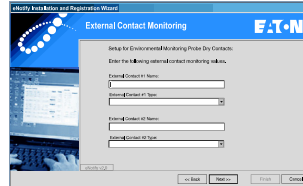

Figure 21. Set External Contacts
- On the External Contact Monitoring screen (Figure 21), describe the external contacts for the Environmental Monitoring Probe (EMP) if you are using them. Type a **Name** for each dry contact and select its **Type**. Click **Next**.